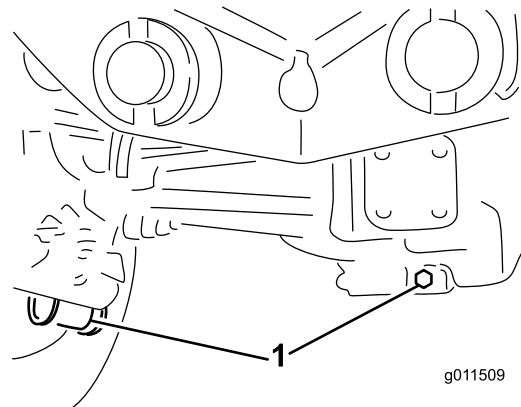

Figure 62
- Clean the area around the 3 drain plugs; 1 on each end and 1 in the center (Figure 62).